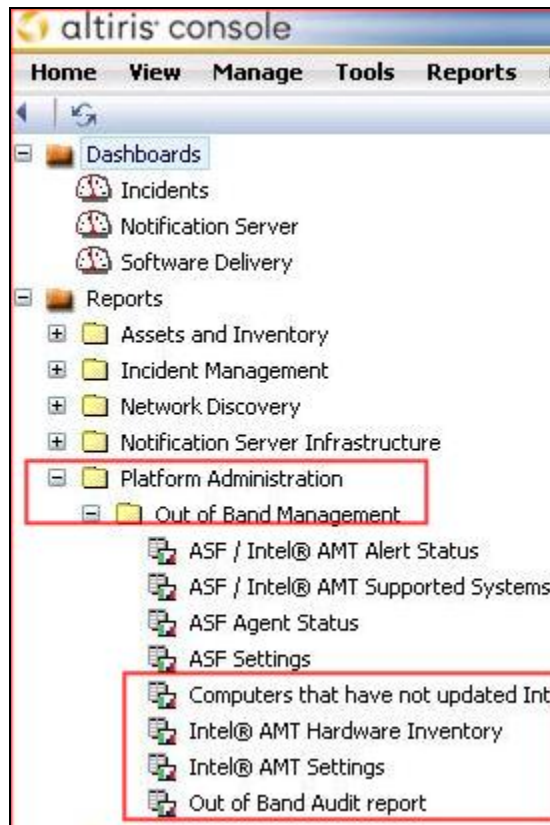

Figure 5. View reports
11. Select each report to view information about the inventory and assets of the system (see Figure 5)